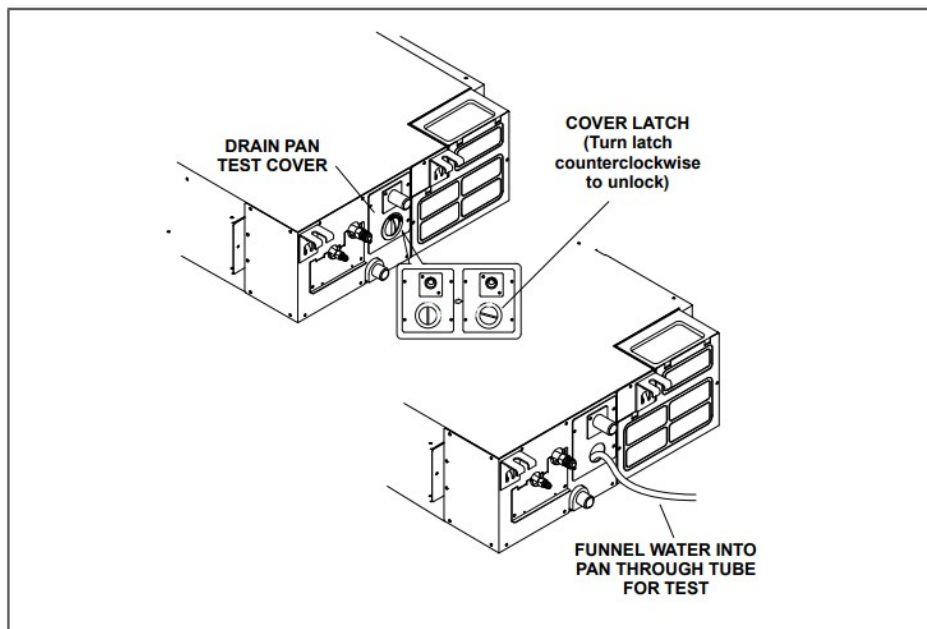

Figure 21. Condensate Drain Test
6. If the unit is being installed in an application that includes a sheet rock (plasterboard) ceiling, it is required that an access panel be installed in a suitable location. This will also allow access for future maintenance. Access is required during the start up process to test the condensate disposal system. See "Figure 21. Condensate Drain Test" on page 15.